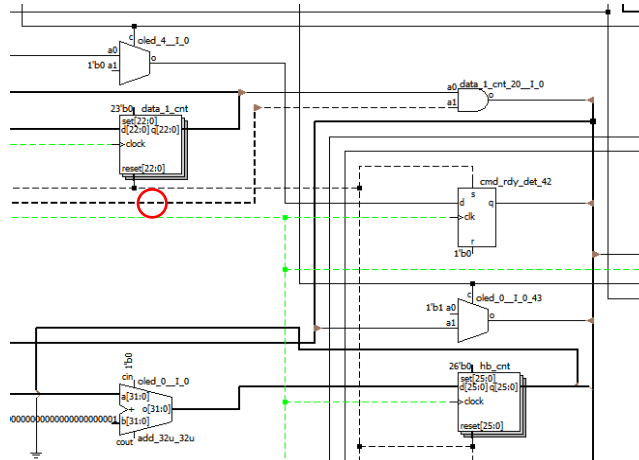

Figure 3.10. Schematic View after Selected Module is Trimmed
- Once the uninterested module is trimmed, the connection from that module becomes dotted as shown in Figure 3.10.